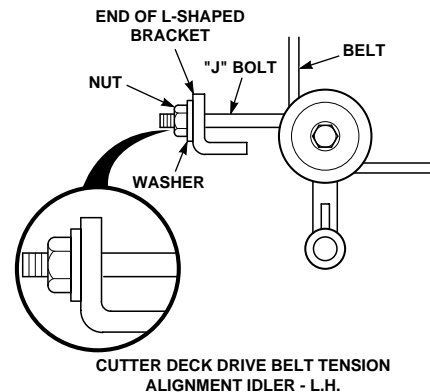

Figure 1. Deck Drive Belt Adjustment
- Adjust the cutter deck drive belt using a belt tension gauge. Adjust the belt so that the belt moves 1/2" with 10 pounds of pressure. Adjust the tension by tightening or loosening the J-bolt nut. (See Figure 1).